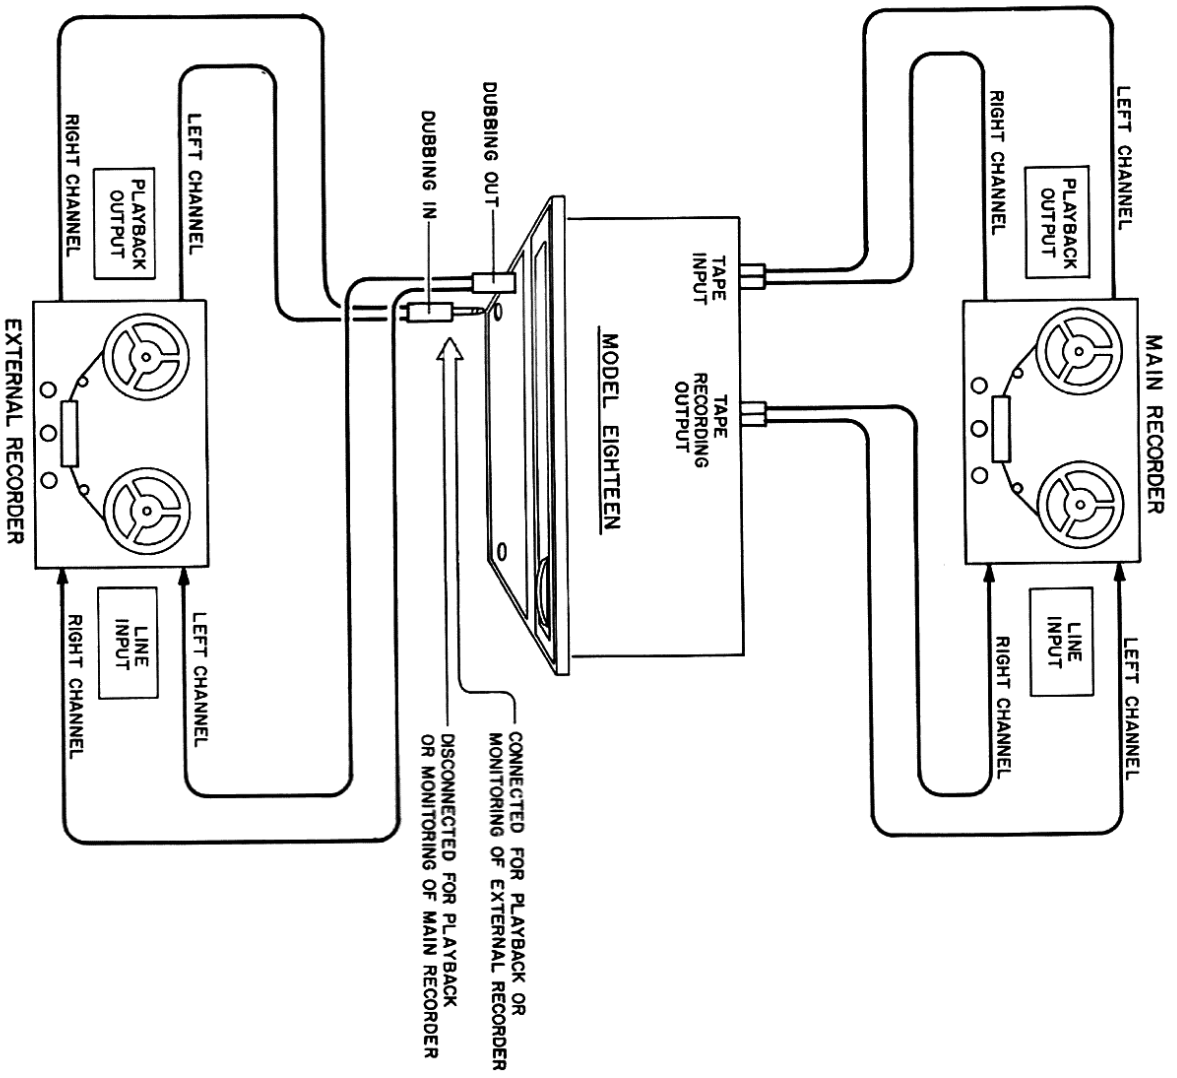

Figure 11. Arrangement of Two Tape Recorders
There are several ways to connect and operate tape recorders with your receiver. To avoid confusion in the following discussion, references to "tape monitoring" assume that the recorder is equipped with separate record and playback heads and separate record and playback preamplifiers. To further simplify this discussion, a tape recorder usually connected to the rear panel facilities of the Eighteen will be referred to as the "main" recorder; a separate recorder usually connected to the front panel jacks will be referred to as the "external" recorder. This general arrangement is shown illustrated in Figure 11.
**Making Two Tape Recordings Simultaneously** You can make two tape recordings at the same time by connecting two tape recorders to the Eighteen, as shown in Figure 11. To monitor the external recorder,
With two tape recorders connected to the Eighteen as shown in Figure 11, you can make a continuous recording without losing parts of the program during reel changes. For example, with the selector switch set to the desired program source, and the Tape Monitor switch in the "out" position, you can start the recording on the main recorder, then prepare the external recorder to begin recording at a convenient program pause before the main recorder is about to run out of tape. As soon as the external recorder is started, you will have ample time to reload the main recorder in preparation for further recording. This process can be repeated indefinitely with both machines. At any time during the recording session, you can monitor the recording by depressing the Tape Monitor switch.
The general arrangement of equipment for copying and editing is illustrated in Figure 11. To copy from the main recorder to the external recorder: